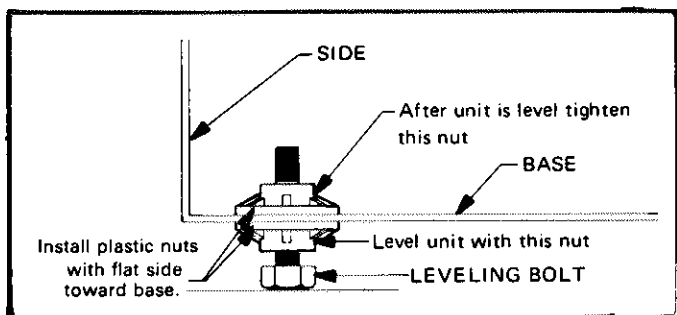

FIGURE 1
- 1 - Holes are provided in the corners of unit base for leveling unit. Install leveling bolts (if desired) as shown, or shim under unit. See figure 1.